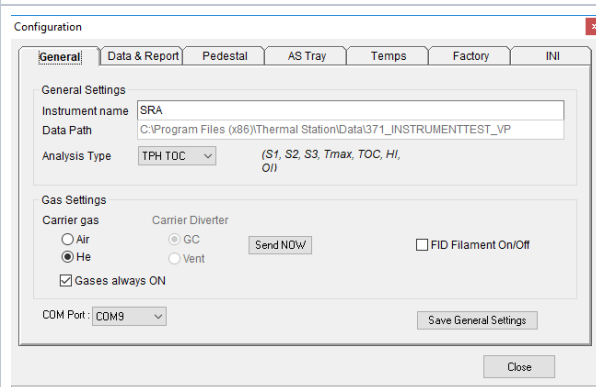

Figure 6: General Tab of the Configuration Menu
- b. Disconnect the gas line at the base of the oven pedestal (Figure 8) and connect to the flow meter. Navigate to Configuration>General and verify the helium flowrate is 100 mL/min and the oxidation air flowrate is 250 mL/min by selecting the gas radio buttons (Figure 6). Reconnect the gas line.